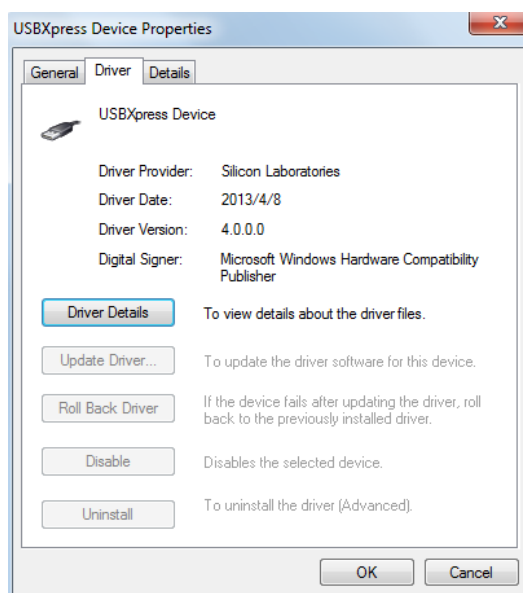

Figure 14: Correct Driver Version
If the PC is running Windows 10, check the driver version of USBXpress Device. Windows 10 automatically installs the older USB driver, which is not compatible. The correct driver version is 4.0.0.0 (see Figure 14).
2. Connect the EVKT-USB2C-02 communication interface to the PC with the USB cable (see Figure 14).